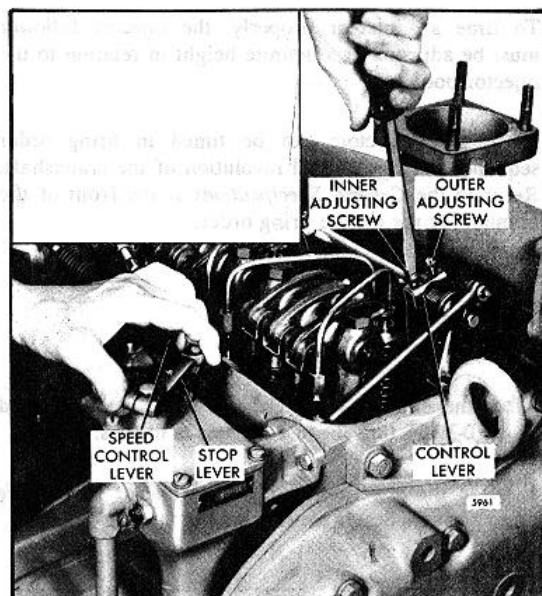

Fig. 2 - Positioning No. 1 injector Rack Control Lever
7. Hook the torsion retracting spring on the special cover screw and the stop lever (Fig. 2).
Adjust the No. 1 injector rack control lever Fig. 2 first, to establish a guide for adjusting the remaining injector rack control levers.
3. Loosen all the inner and outer adjusting screws (Fig. 2). Be sure all the injector rack control levers are free on the injector control tubes.
7. Manually hold the No. 1 injector rack in the full fuel position and turn down the inner adjusting screw (Fig. 2) of the No. 2 injector until the injector rack has moved into full fuel position and the inner adjusting screw is bottomed on the injector control tube. Turn the outer adjusting screw down until it bottoms lightly on the injector control tube. Then alternately tighten both the inner and outer adjusting screws until tight.